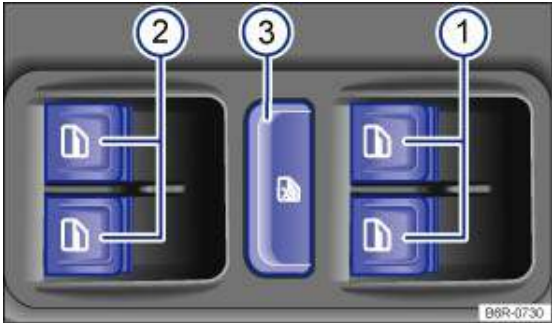

Fig. 36 In the driver door: buttons for the front and rear electric windows with one-touch opening and closing
Key to → Fig. 36:
The safety switch → Fig. 36 ③ deactivates the electric window buttons in the rear doors. The yellow indicator lamp in the button will light up.